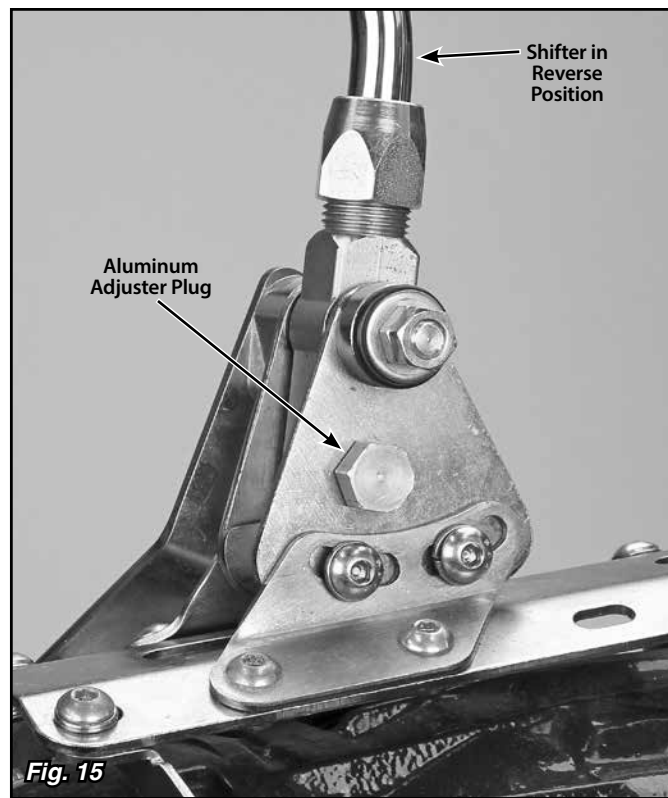

Fig. 15
Step 20: Put the shifter into the Reverse position. Reposition the switch plate so the hole in the switch plate lines up with the center groove in the shifter body. **Fig. 14** Screw the provided aluminum adjuster plug into the neutral safety switch opening. Moving the switch plate slightly forward and back while you are screwing the aluminum adjuster plug in will help get the shifter body centered on the adjuster plug. **Fig. 15**